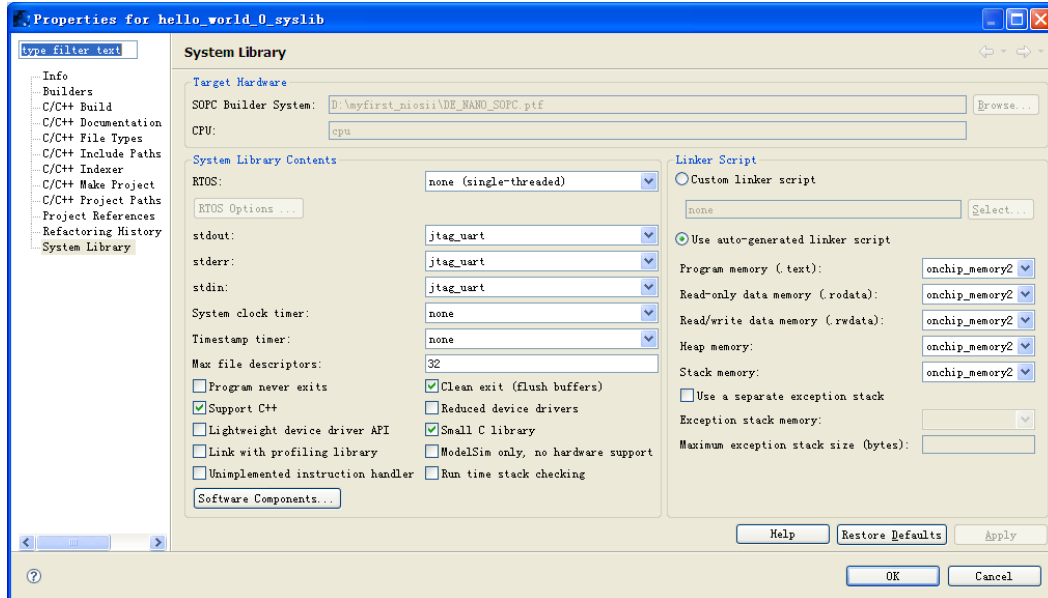

Figure 7-59 Configuring System Library Properties
3. In the **Linker Script** box, observe which memory has been assigned for **Program memory(.text)**, **Read-only data memory(.rodata)**, **Read/write data memory(.rwdata)**, **Heap memory**, and **Stack memory**, see Figure 7-59. These settings determine which memory is used to store the compiled executable program. You can also specify which interface you want to use for `stdio`, `stdin`, and `stderr`. You can also add and configure an RTOS for your application and configure build options to support C++, reduced device drivers, etc.
4. Select **onchip_memory2** for all the memory options in the **Linker Script** box, as shown in Figure 7-59.